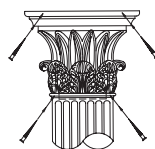

Figure 1
1. Before installation, apply the panel insert pieces to the top and bottom of each side of the column shaft. Each column will include (4) top panel insert pieces and (4) bottom panel insert pieces. The pieces can be attached to the shaft using a construction adhesive. Follow the instructions on the package.
8. Decorative Capitals should be anchored to the soffit by pre-drilling and using a toenailing attachment. Use stainless steel screws and seal with waterproof silicon caulk. See Figure 1.